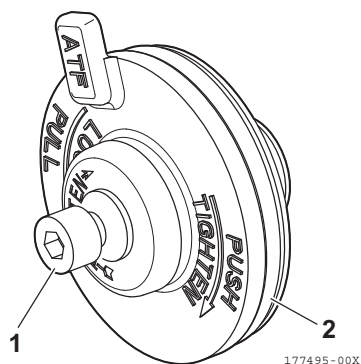

Figure 15
6. If needed, loosen the cap screw (1, **Figure 15**) by few turns for easier removal of O-ring (2, **Figure 15**).